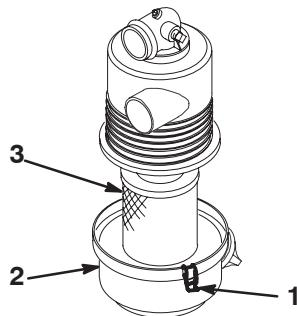

Figure 28
- Release the latches securing the air cleaner cover to the air cleaner body. Separate the cover from the body. Clean the inside of the air cleaner cover (Fig. 28).
- Gently slide the filter out of the air cleaner body to reduce the amount of dust dislodged (Fig. 28). Avoid knocking the filter against the air cleaner body.